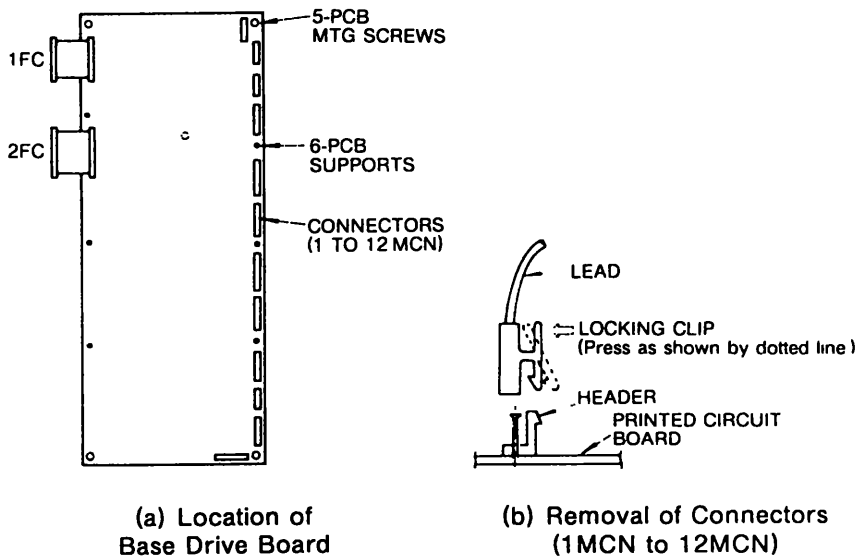

Fig. 9.3 Removal of Base Drive Board
### (1) Removal Procedures (Fig. 9.3)